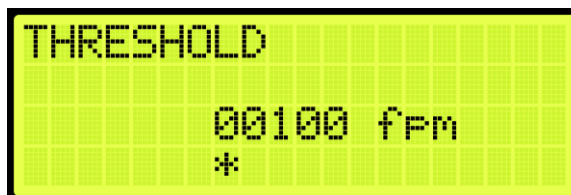

Figure 505: THRESHOLD Menu
4. From the THRESHOLD menu, set the threshold distance (See Figure 505).